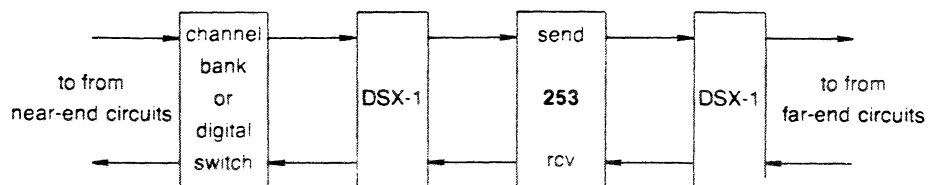

Figure 3. Location of 2531/2531A in a CO Circuit Path
- 2.10 **Connection.** The 2531/2531A typically operates in conjunction with a D-type channel bank or a digital toll switch. In such applications, the canceller is normally located between two DSX-1 cross-connect frames as shown in figure 3. With 22-gauge cable, maximum permissible distance between the DSX-1 cross-connect frame and the 2531/2531A (including intraframe cabling in the DSX-1 frame) is 650 feet (198 meters).